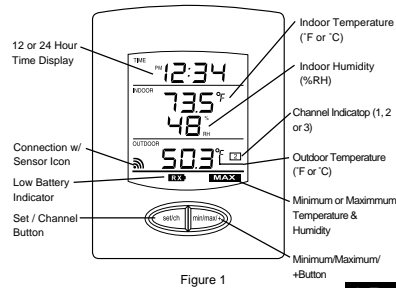

Figure 1
- Wireless Weather Station (Figure 1).